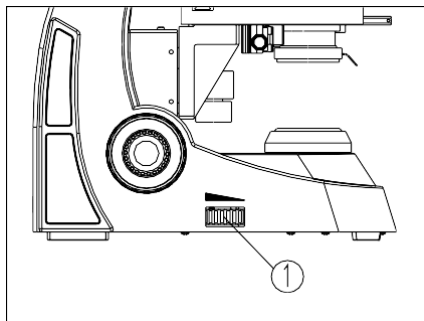

Fig.8
2. Adjust the light adjustment knob ① until the illumination is comfortable for observation. Rotate the light adjustment knob clockwise to raise the voltage and brightness. Rotate the light adjustment knob counterclockwise to lower the voltage and brightness (see Fig. 8).